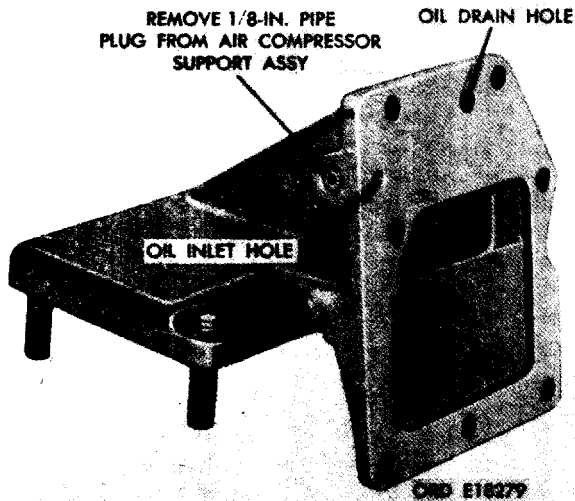
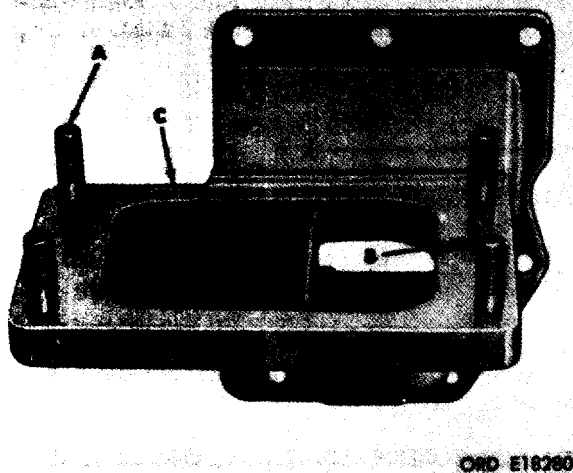

FIGURE 349. REMOVING OR INSTALLING PIPE PLUGS IN AIR COMPRESSOR SUPPORT ASSEMBLY.
FIGURE 350. INSPECTING AIR COMPRESSOR SUPPORT.
removal of 1/8-inch pipe plug (B-1) and replacement of the four 7/16 x 1-7/8 plain studs (B-3). Remove pipe plug from air compressor support following instructions on figure 349.
- (1) Cleaning. Clean air compressor support assembly (B) as directed in paragraph 152c.
- (2) Inspection. Figure 350. (A) Inspect the four 1-7/8 plain studs for stripped threads and for looseness in support. (B) Inspect oil inlet hole in compressor mounting gasket face for obstructions. Use a wire probe to clean out oil hole, pushing probe through and out oil inlet hole in support gasket surface (fig. 349). Clean out oil hole, after probing, with compressed air. (C) Inspect gasket surface for nicks, sticking gasket material, and damage.
d. Assembly. Install 1/8-inch pipe plug (B-1) in air compressor support assembly as shown in figure 349.